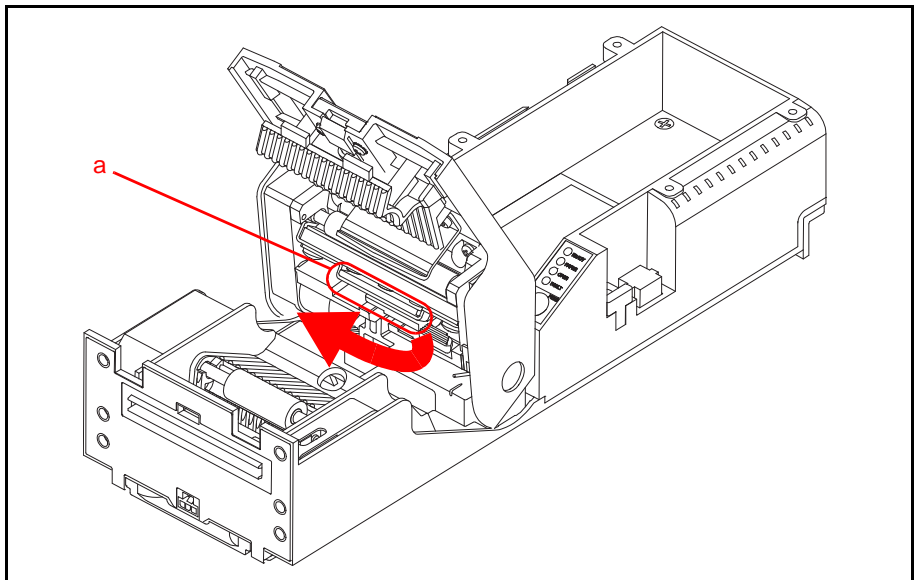

Figure 5 GEN5 Print Head Release Lever
4. Rotate the Print Head Release Lever (Figure 5 a) leftward, then gently press down on the Lever to lower the Print Head.